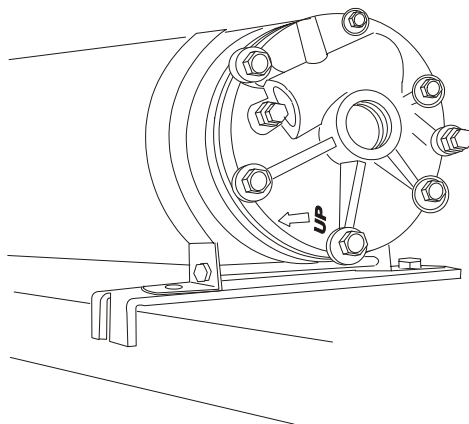

Figure 2.2
- Rotate the tank so that the directional arrow on the end of the tank is parallel to the work bench and faces toward you (Figure 2.2).